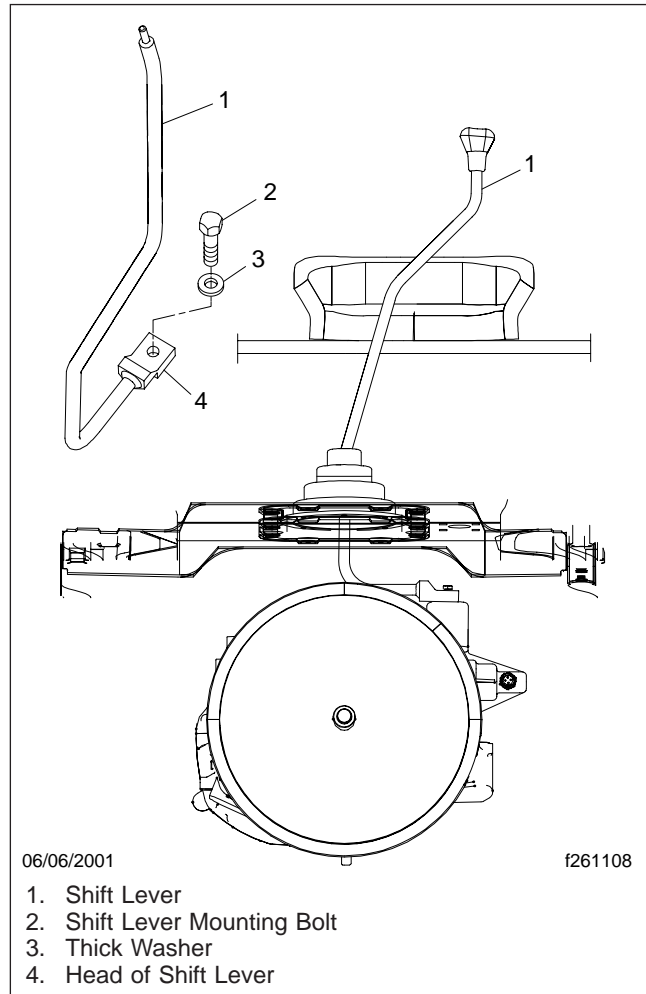

Fig. 6, Shift Lever Connection
- 4.3 Remove the head of the shift lever from the transmission. See Fig. 6. For ease of
- 8.3 Insert the M10 bolt and a thick washer into the hole in the shift lever. See **Fig. 6**. Use the markings made during removal to install the shift lever in the correct orientation, so as to avoid cab floor interference.